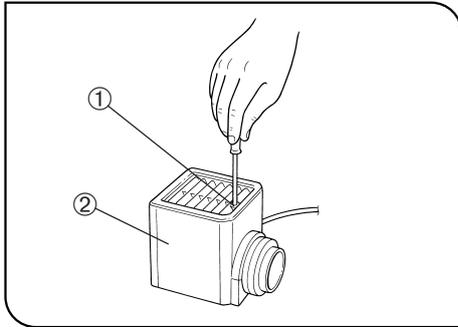

Fig. 56
6 Attaching the Halogen Lamp Housing (Figs. 56 to 59)
5. Fit the lamp housing from up and tighten the clamping screw ① by applying downward pressure. (Fig. 56)